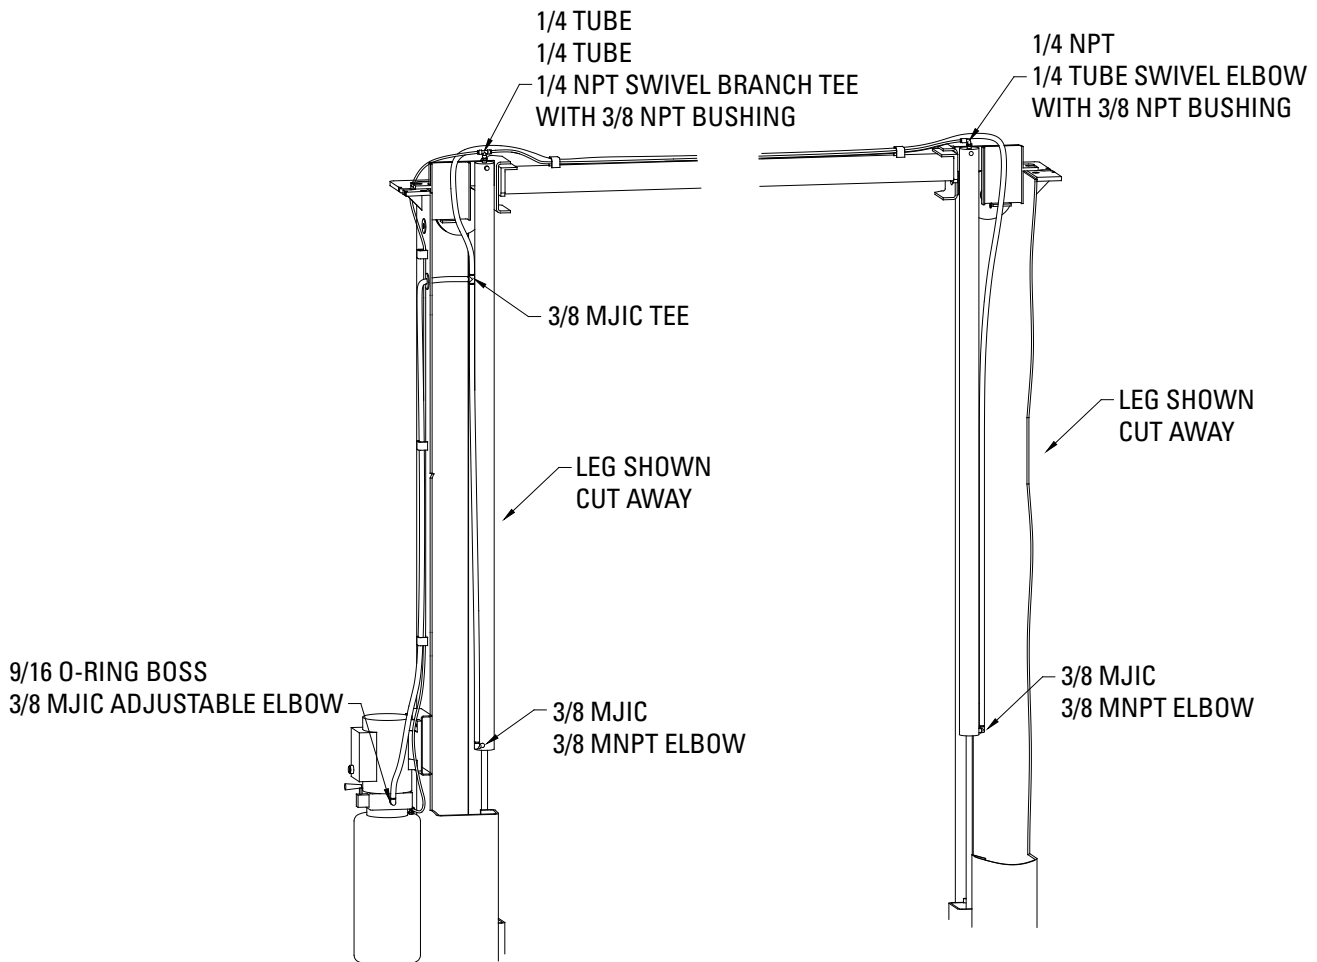

Figure 4
- C. Install the cylinders to the uprights with 1/2" x 5" Grade 8 bolt, **cylinder bushings**, washers, and nut, Figure 4. The port near the rod end of the cylinders should be positioned pointing to the leg's open side.